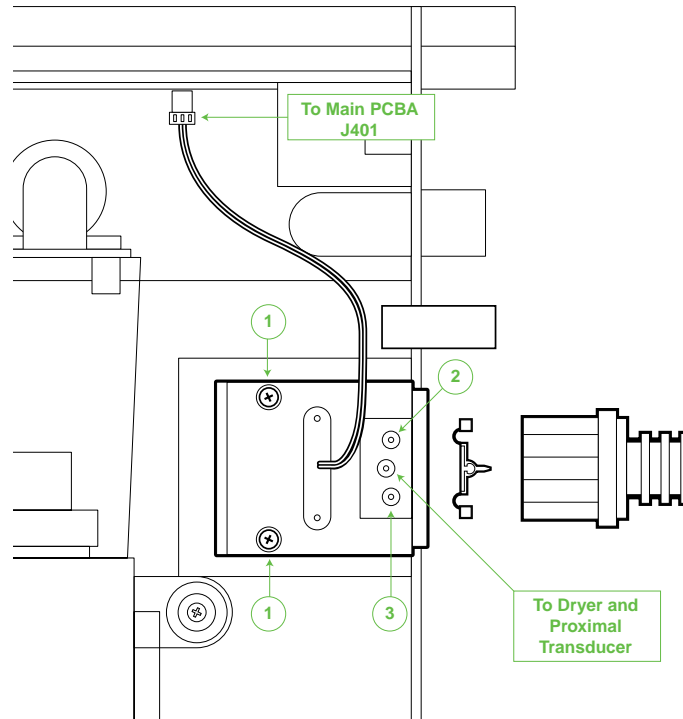

Figure 5-13. Exhalation Valve
Referring to Figure 5-13, the two outside tubes should be labeled as 2 and 3 with plastic bands. If they are not, label these tubes with masking tape or make a drawing for correct assembly.
3. Remove the three (3) pneumatic tubes to the Exhalation Valve, labeling or noting their position for proper assembly.
5. Remove the two (2) Phillips screws (Figure 5-13, ref. 1) from the top of the Exhalation Valve.